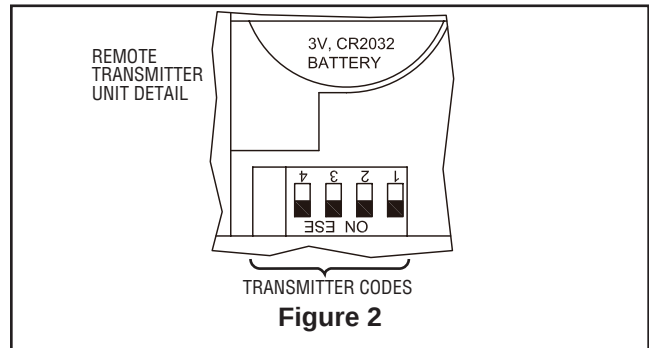

Figure 2
- ☐ 2. Loosen the two set screws in the downrod support. Route black, blue and white lead wires through the downrod (Figure 2).
- ☐ 1. Securely attach the hanger bracket to the outlet box using the outlet box screws and washers supplied with the outlet box (Figure 2).
- ☐ 1. To set the transmitter code, remove battery cover by pressing firmly below arrow and sliding cover off. Slide code switches to your choice of up or down position. Factory setting is all up. Do not use this position. With a small screwdriver or ball point pen slide firmly up or down. Replace battery cover on the transmitter (Figure 2).